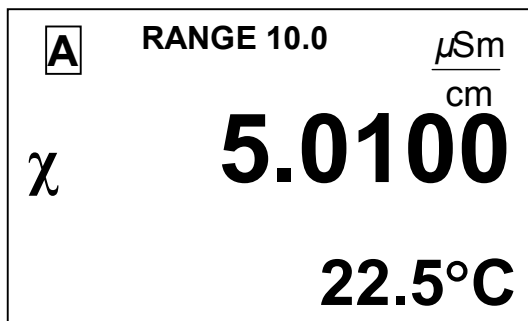

Figure 1.6
- single-channel (A or B) measuring mode screen according to Fig.1.6 and 1.7;